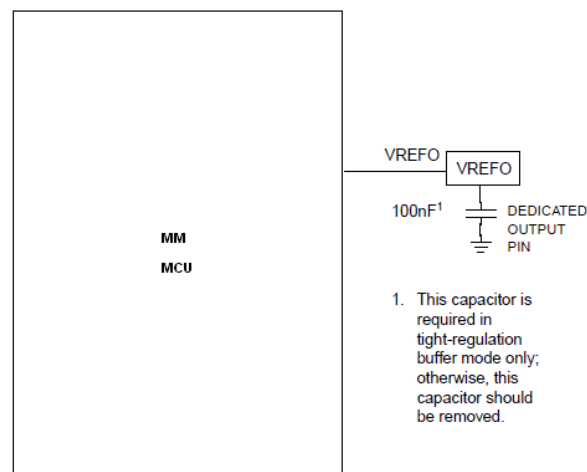

Figure 2. VREFO external pin connection
Figure 2 below shows the VREFO external pin connection necessary to be used for off-chip analog peripherals.
- If VREFO is intended to on-chip modules or off-chip (via the VREFO pin) or both, then set the VREFSC\_MODE bit to 2. Please follow Figure 2 for VREFO external pin connection.